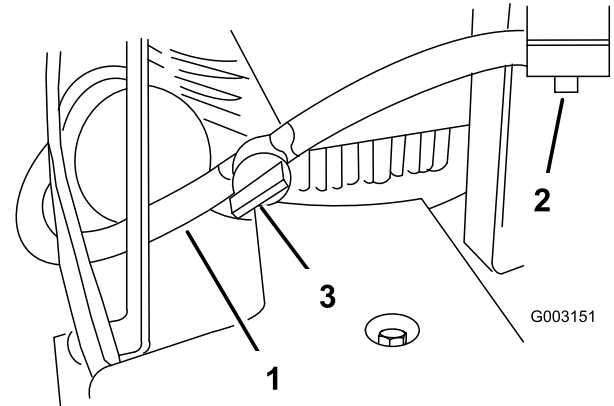

Figure 5
- Remove the red cap from the end of the fuel line and from the end of the elbow fitting on the fuel tank (Figure 5).
- Slide the end of the fuel line onto the elbow fitting (Figure 5).
- Secure the fuel line in place with the fuel line clamp (Figure 5).